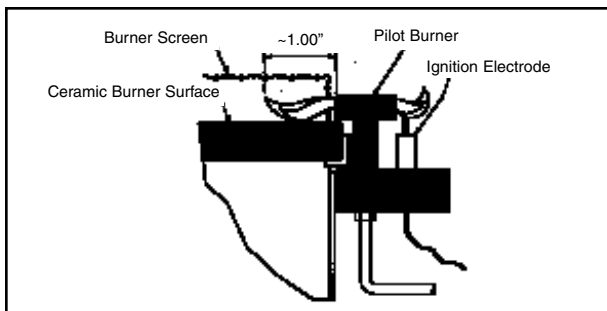

Figure 16. Pilot Light Adjustment
4. While visually observing the pilot flame, rotate the pilot adjustment screw counter-clockwise to increase the flame length or clockwise to decrease the flame length. The flame should be approximately 1" long. (See Figure 16.)